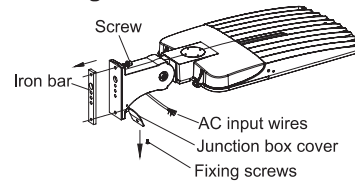

Figure 4
4. Remove screws with screwdriver. Set aside Iron Bar for future use. Remove the fixing screws to open the junction box cover. Pass the fixture's AC input wires through the junction box as shown in Figure 4.